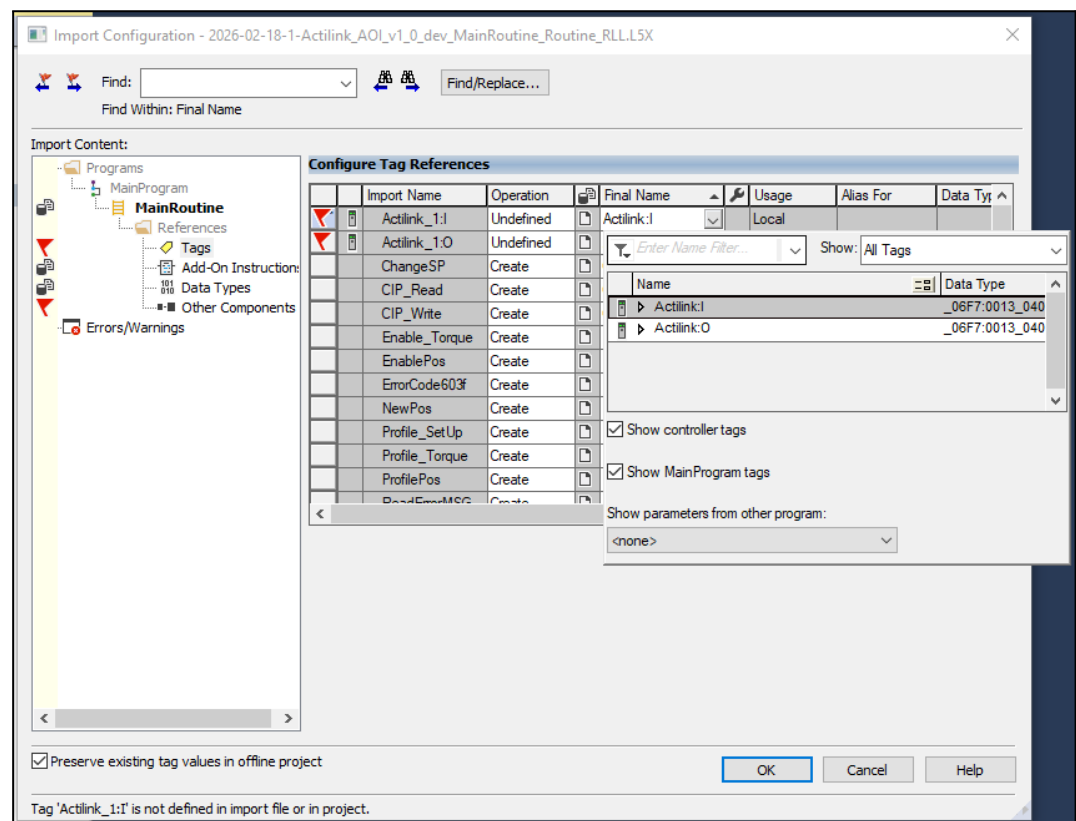

Figure 5.4 - Fix link tags for input and output
- To change the input and output links, refer to *Figure 5.4*.